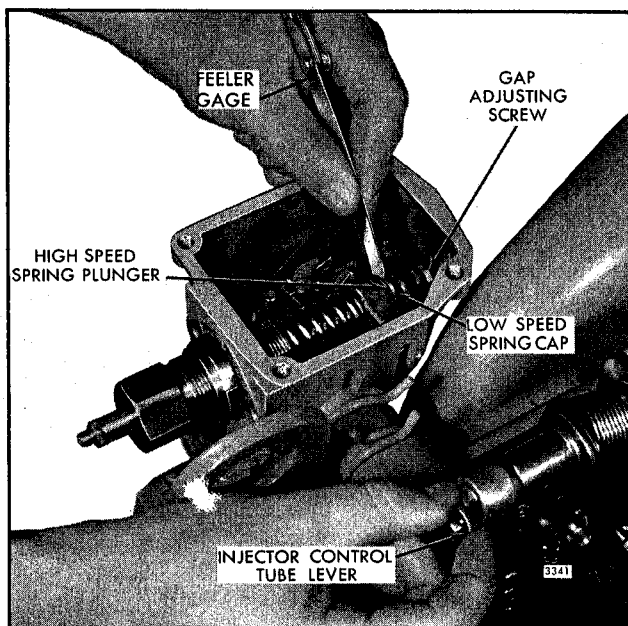

Fig. 1 - Adjusting Governor Gap
7. Check the gap between the low speed spring cap and the high speed spring plunger with a .0015" feeler gage. If the gap setting is incorrect, reset the gap adjusting screw (Fig. 1). If the setting is correct, the .0015" movement can be seen by placing a few drops of oil into the gap and pressing a screw driver against the gap adjusting screw. Movement of the cap toward the plunger will force the oil from the gap in the form of a small bead.